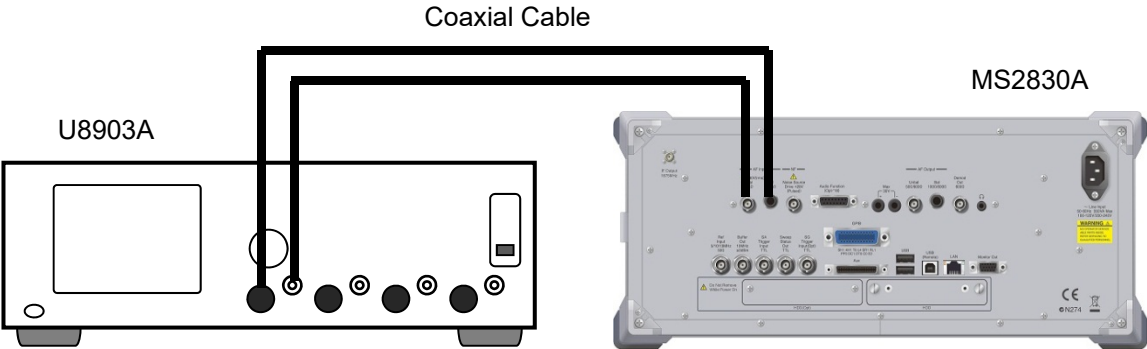

Figure 4.3.2-1 Connection for Input Level Accuracy Test
*: The input level to the MS2830A Audio Analyzer in Figure 4.3.2-1.
1. Connect the devices according to Figure 4.3.2-1.